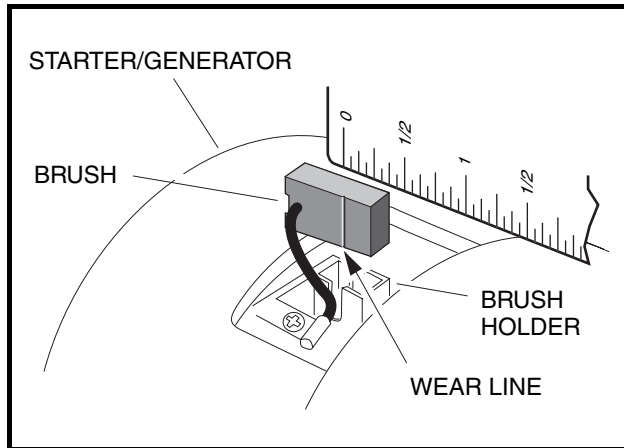

Figure 12-4 Inspect Brushes
2. Check the wear line on the side of the brush. If the end of the brush is within 1/16 inch (1.6 mm) of the wear line, replace all four brushes (Figure 12-4, Page 12-3).